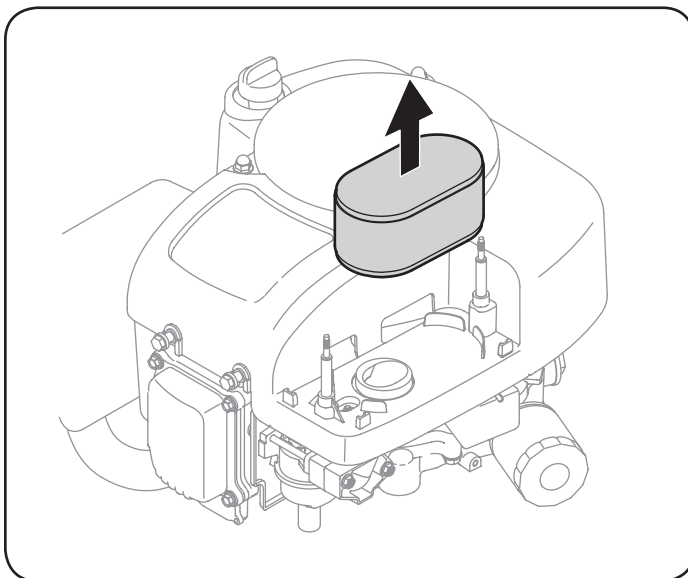

Figure 15
2. Remove the air filter. See Figure 15.